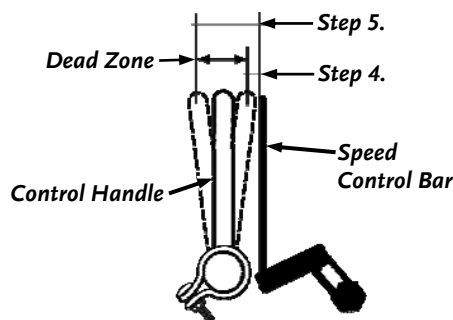

Figure 32
4. Bring the Speed Control Bar to the vertical position. Using light hand pressure, move one Control Handle forward (**Figure 32**) until you feel resistance. Using a tape measure, note the distance between the Speed Control Bar and Control Handle.